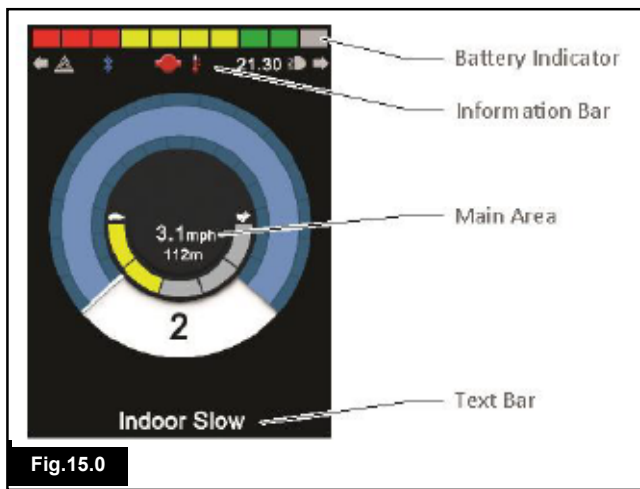

Fig.15.0
15.1 LCD Screen Details (Fig 15.0)
15.3 Information Bar (Fig 15.0)
15.5 Main Screen Area (Fig 15.0)